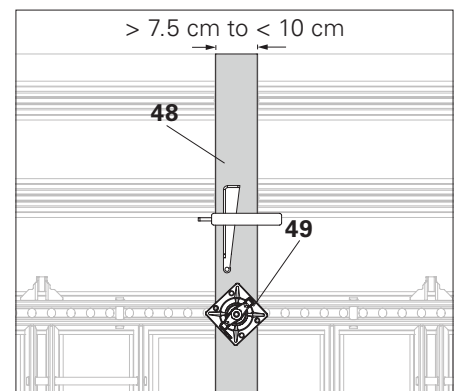

Fig. C4.01b
For Compensations between 7.5 cm and <10 cm, use Wingnut Pivot Plate DW 15 (49) art. no.: 030370 (Fig. C4.01b) or alternatively Compensation Waler HSA 95 can be used.